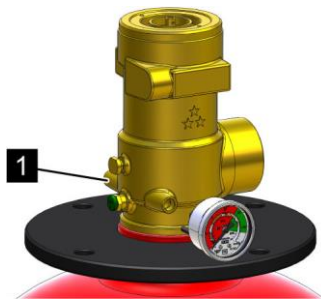

Fig. 150: Connect the pressure measuring device
20. ➡ Connect the pressure measuring device to a free pressure gauge connection (Fig. 150/1) and check the system pressure.